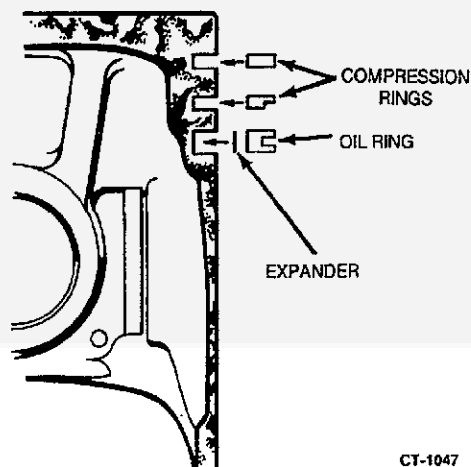

FIGURE 9-25. PISTON RINGS
3. Install the rings on the piston beginning with the oil control ring (Figure 9-25). Use a piston ring spreader to prevent twisting or excessive expansion of the ring. Compression rings are marked with a dot or the word "top" on one side of the ring to indicate which side faces the top of the piston. Unmarked piston rings can be installed either way. The oil control ring has an expander. Install the expander first, then close until the expander ends butt together. Locate the expander gap 180 degrees from the ring gap.